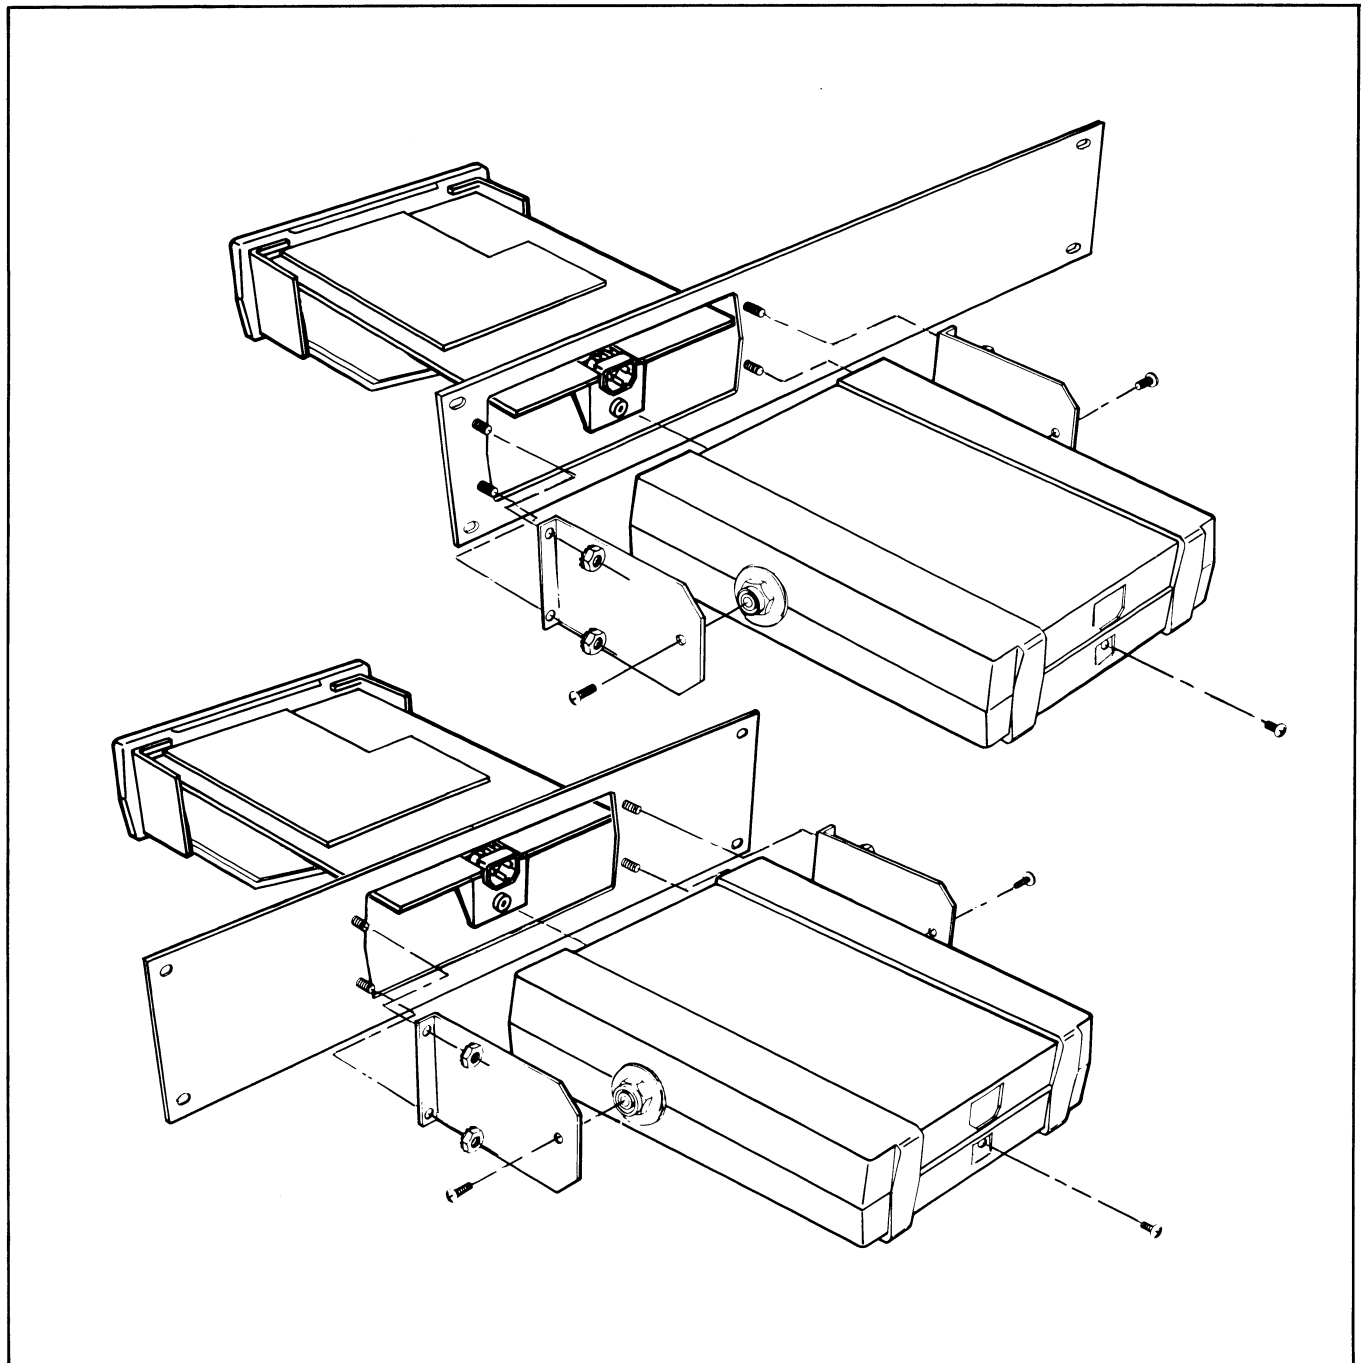

Figure 600-3. Rack Mounting Kits, Offset and Center Mounting
3. Install the side mounting brackets as shown in Figure 600-3, and secure them to the mounting panel using the nuts provided.